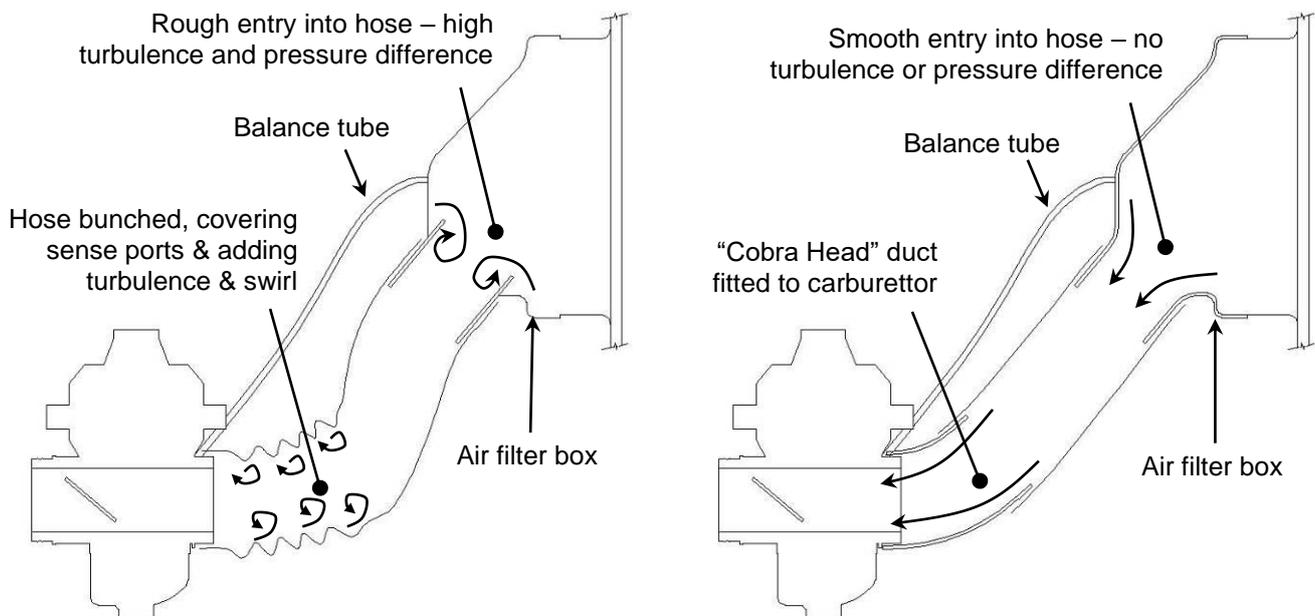

Figure 36. Air Intake Connections
- Tight corners in the hose (as shown in Figure 36) can introduce both swirl and turbulence to the air flowing into the carburettor